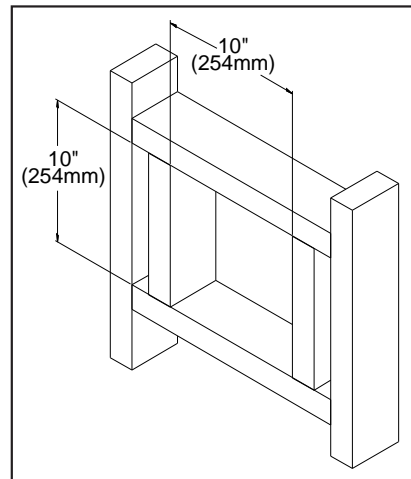

Figure 26: Wall Framing Hole for Horizontal Installation.
4. Frame the hole as shown in Figure 26.
5. Trim the wall thimble to match the wall thickness as necessary. Install the wall thimble and secure it to the inner wall frame using four (4) 1½" wood screws. If a wall is greater than 8" (203mm) in depth, the clearance above the flex must be 4¾" (111mm)
3. With the pipe attached to the stove in the correct location, mark the wall for a 10" (25.4cm) x 10" (25.4 cm) square hole (refer to Figure 26). The center of the square hole should match the center line of the horizontal pipe. Cut and frame the 10" (25.4cm) x 10" (25.4cm) hole in the exterior wall where the vent will be terminated. Refer to Figure 18. If the wall being penetrated is constructed of non-combustible material i.e. masonry or concrete, a 7" (17.8cm) hole is acceptable.